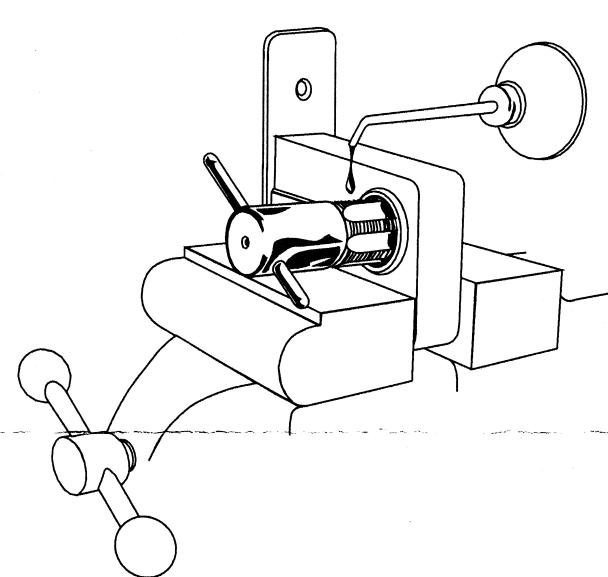

Fig. 1
1. Place the lock case in a vise (if not in the door). Put several drops of oil on the cylinder threads. Enter the tap straight into the cylinder hole and turn one half-turn counterclockwise (this will assure you of proper cutting alignment). While carefully holding the tap straight, turn clockwise slowly and the tap will re-thread the stripped or worn cylinder hole (see Fig. 1).